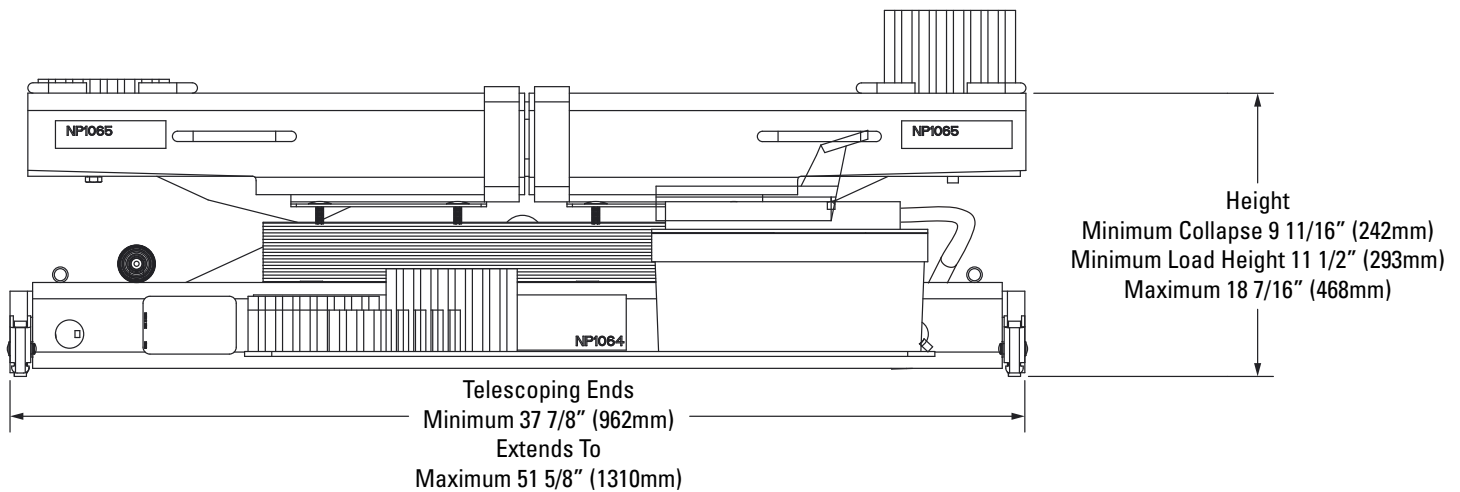

Fig. 2
- B. The rail engaging wheels shall be adjustable for an inside runway width of 37 7/8" (962 mm) minimum to a 51 5/8" (1310 mm) maximum Fig. 2.
- C. The rolling jack shall be equipped with three (3) different sized rubber pads 1/2", 1 1/2" and 3".
- D. The rolling jack shall be equipped with two (2) truck adapters, two (2) 3" adapter extensions, and two (2) 5" adapter extensions.
- G. The rolling jack shall be moveable on four (4) heavy duty urethane compression wheels. Actual vehicle load to be transferred to jack end section load bars engaging the roller track assembly.